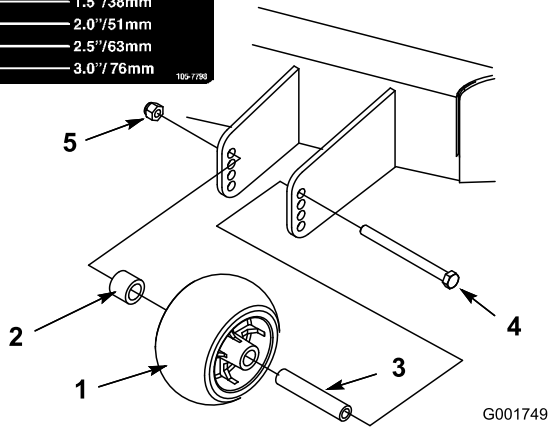

Figure 20
3. After adjusting the height-of-cut, remove the flange nut, bushing, spacer, and bolt (Figure 20).
4. Select a hole so that the outer roller is positioned to the nearest corresponding height-of-cut desired (Figure 20).
5. Install the outer roller, bushing, spacer, bolt, and nut (Figure 20).